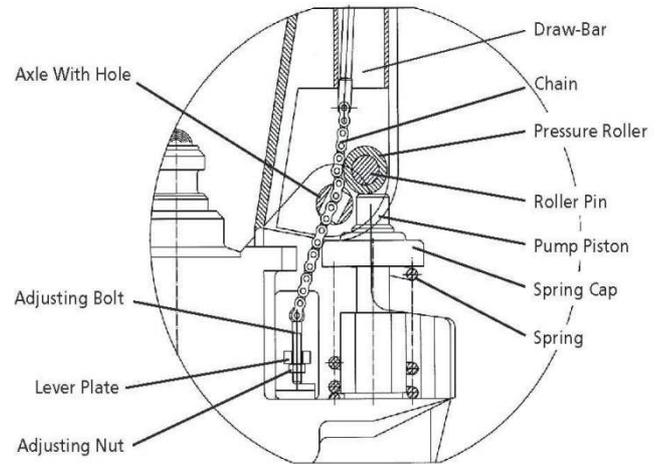

Fig. 7: Side View (symbolic)
- Move the control lever of the handle to the 'Lower' position, then manually guide the adjustment nut and adjustment screw through the hole in the axle (Fig. 7).